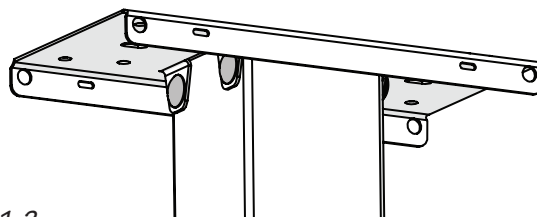

Fig. 1-2
- Working one at a time, slide a 3/8" carriage bolt in from the outside through the mounting plate/post. The carriage bolt should mount flush against the mounting plate as shown in Fig. 1-2.